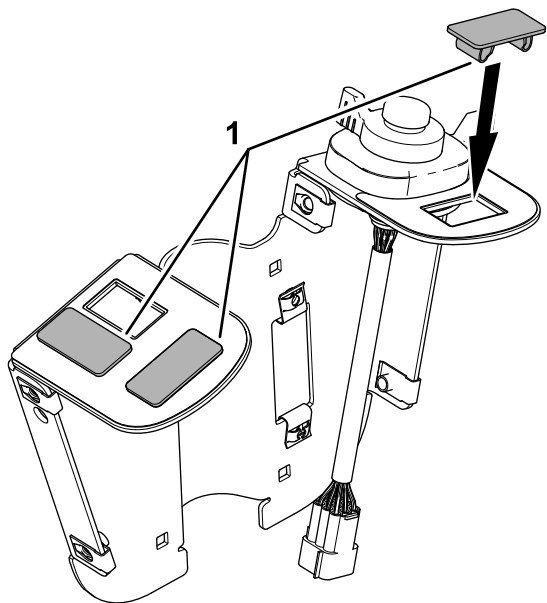

Figure 29
4. Insert the 3 switch plugs into the switch mount as shown in Figure 29.